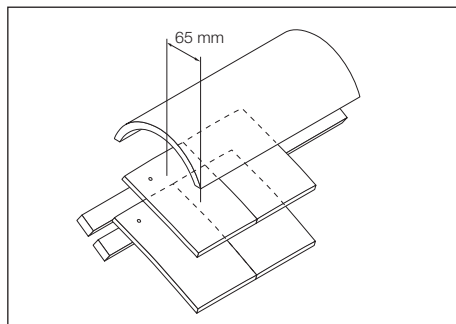

Fig. 3 – Setting out top (ridge) course
- 3 Fix the first full plain tile top course batten so that the ridge tile provides a minimum 65mm cover (Fig. 3).